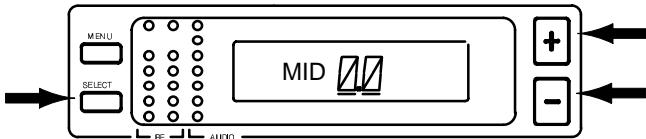

FIGURE 27
3. Press the SELECT button to display the current squelch level, as shown in Figure 27 (factory preset value is “0.0”).